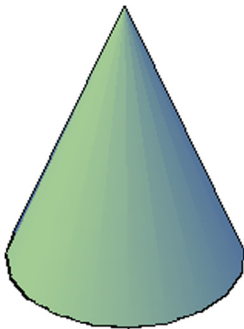

FIGURE 23.20
Step 4. Drag your mouse up (or enter a value) and the cone shape is automatically extruded, as seen in Figure 23.20. The command has some interesting suboptions, such as Top radius, which can chop off the pointy top of the cone. Experiment with these options.